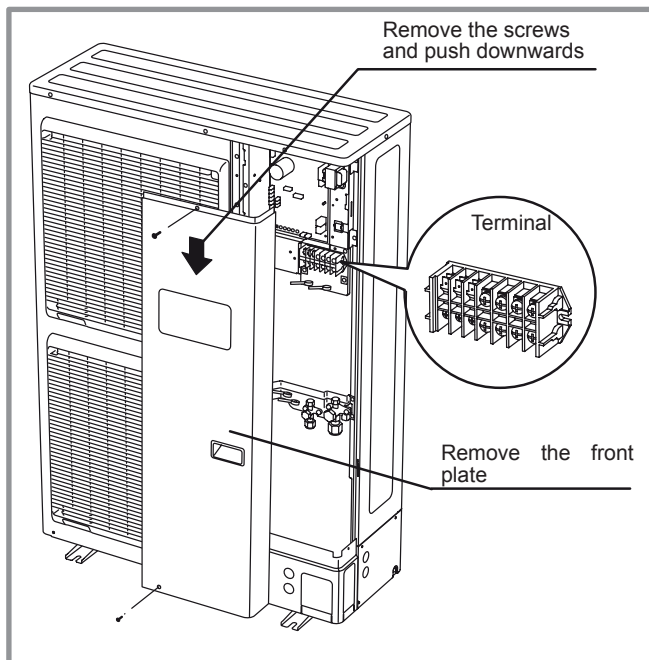

figure 37 - Access to 3 phase outdoor unit's terminal block
- Make the connections according to the diagram(s) figure 37, page 26.